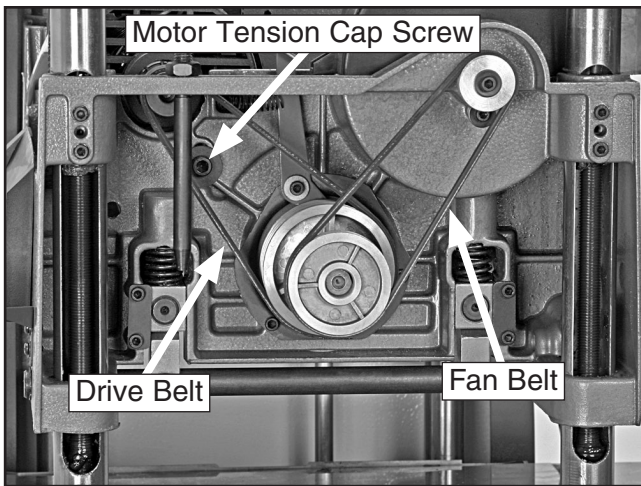

Figure 26. Drive and fan belts.
The Model G0477 features two ribbed belts, shown in **Figure 26**, that are generally good for the life of the machine. However, there are some instances where these belts must be replaced.
6. Loosen the motor tension cap screw indicated in **Figure 26** to lower the motor and to put slack on the drive belt.